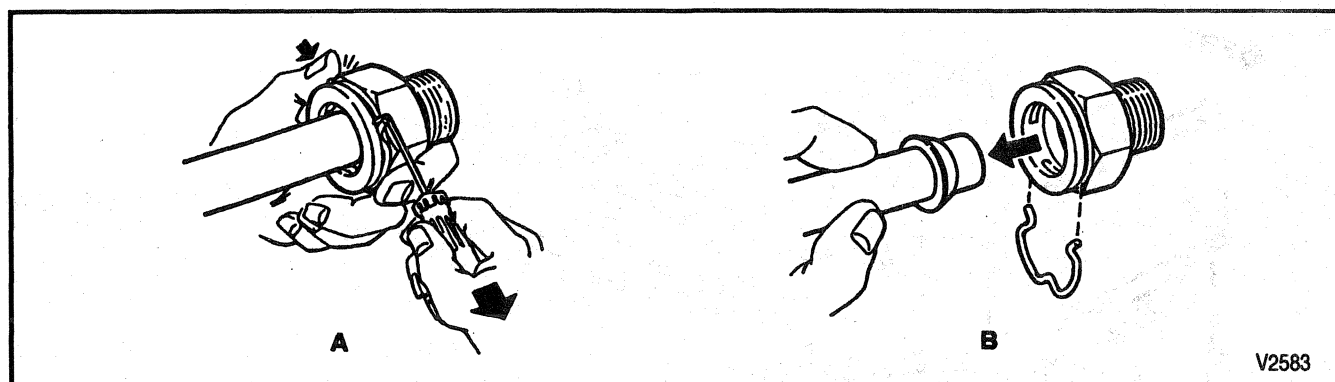

Figure 46—Removing Oil Cooler Line From Connector
- Use a small pick-type tool or screwdriver to release one of the open ends of the retaining ring from the connector fitting (A in Figure 46).
3. Rotate the retaining ring out of position on the connector fitting and remove completely. Discard the retaining ring clip (B in Figure 46).